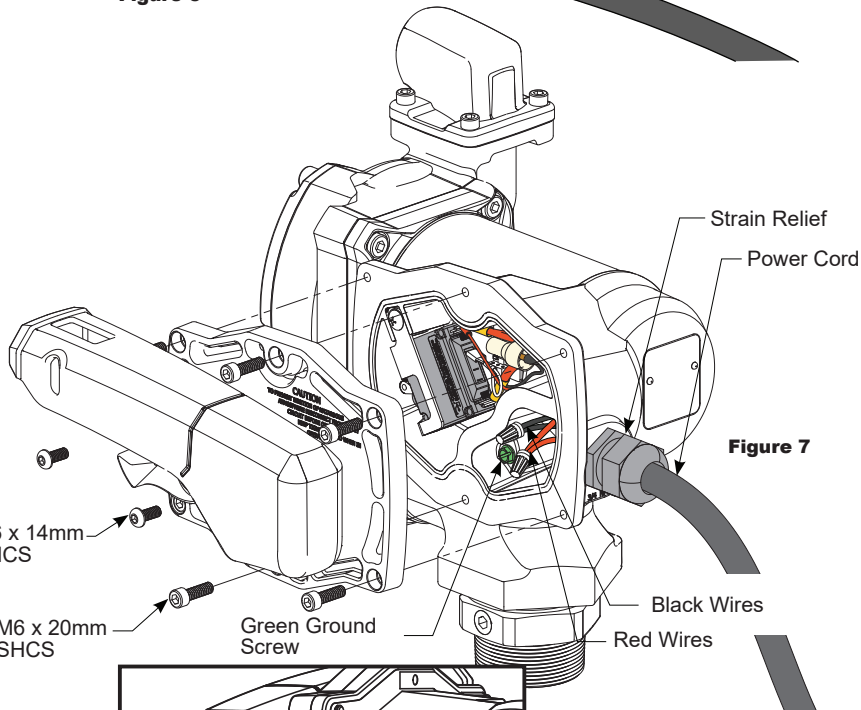
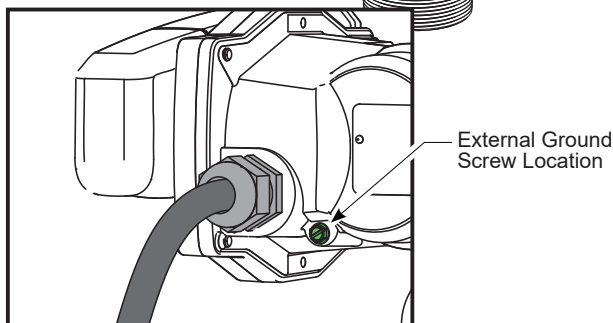

Figure 7
Figure 7a
To install the power cord, remove the (6) M6-1.0 x 20mm SHCS and electrical cover plate (see Figure 7).
Insert the power cord through the 3/4 inch NPT connection on the back of the pump (see Figure 7). Using wire nuts, connect the black wire to the black wire and the red wire to the red in the pump's electrical cavity. Position the wires inside the electrical cavity and tighten the strain relief grip securely. Make sure surfaces are clean. Reinstall the electrical cover plate and switch lever, and tighten securely.
A grounding connection is provided. It is identified as a green colored binding head screw in the electrical cavity (see Figure 7): an external ground can be used instead. When using the external ground for the V25-012PX or V25-024PX (Zone 1 or 2), the installer **must** use a ground wire with a minimum cross-sectional area of 4mm². To use external ground, remove green ground screw from electrical cavity and install in location shown (see Figure 7a).